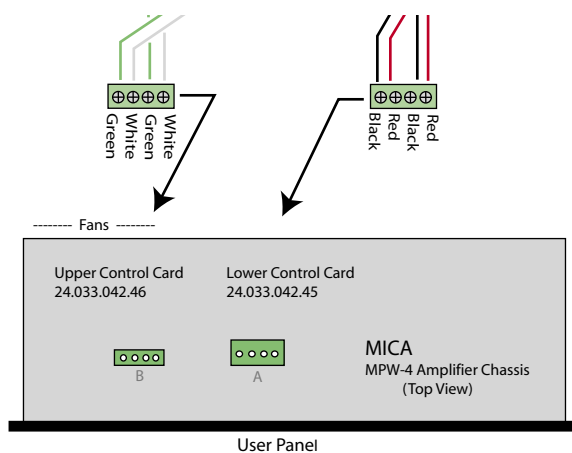

Figure A.2. MICA's two 4-pin connectors
3. Disconnect the two 4-pin loudspeaker connectors. Note that the harness with red and black wires goes to the connector closest to the center of the amplifier module, and labeled “A”, while the harness with green and white cables goes to the connector closest to the left side, and labeled “B” (Figure A.2).